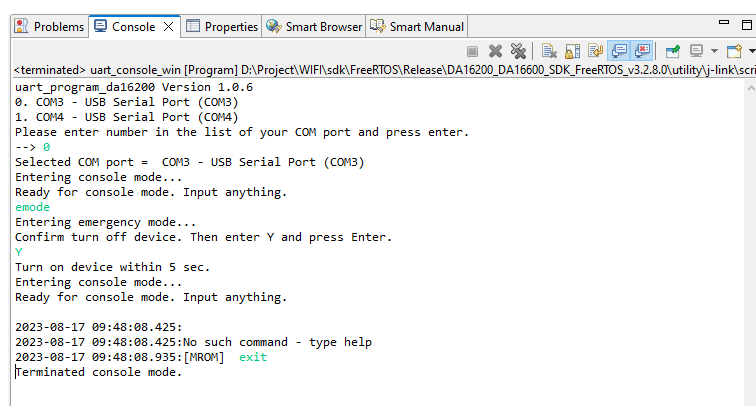

Figure 44: Emergency Mode for Programming Firmware Image
- Programming firmware image over serial interface. See Figure 44.